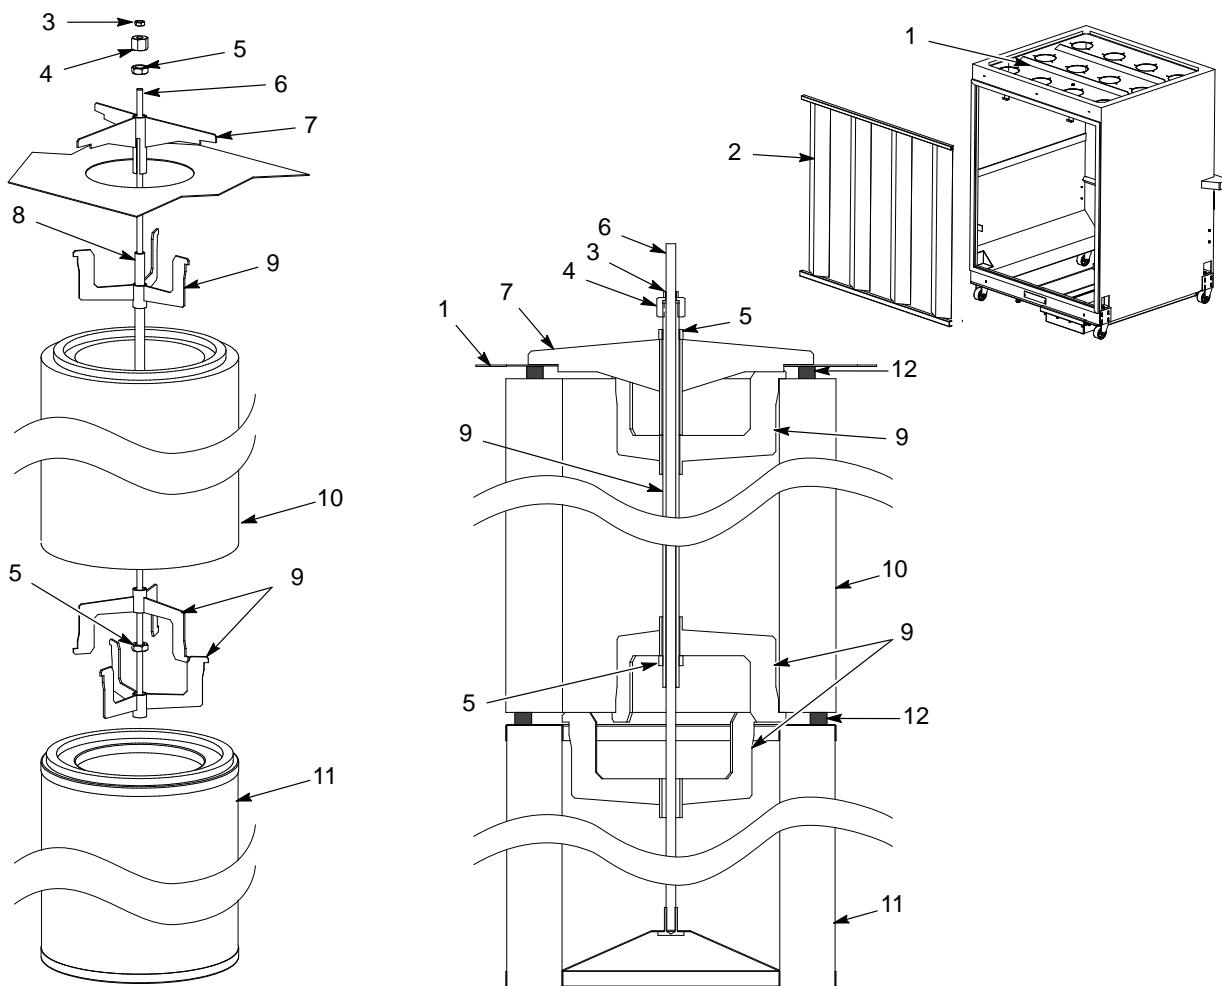

Figure 6-3 26-in. Double-Stack Cartridge Filter Replacement
1. See Figure 6-3. Remove the baffle (2). Support the filter stack while performing the next step.
2. Remove the 3/8-16 jam nut (3), the compression nut (4), the 5/8-16 jam nut (5), and the filter mount (7). Save the removed parts.